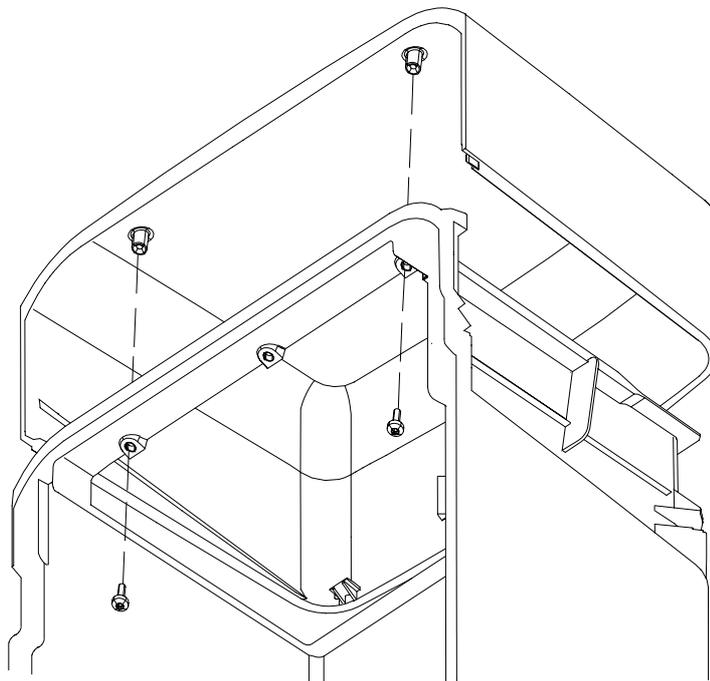

Figure 6. Removing the top of the BTS cover
2. Before painting, detach the cable cover and remove the cable cover support. The cover top can also be detached from the cover by unscrewing the Torx T20 screws (see Figure 6).